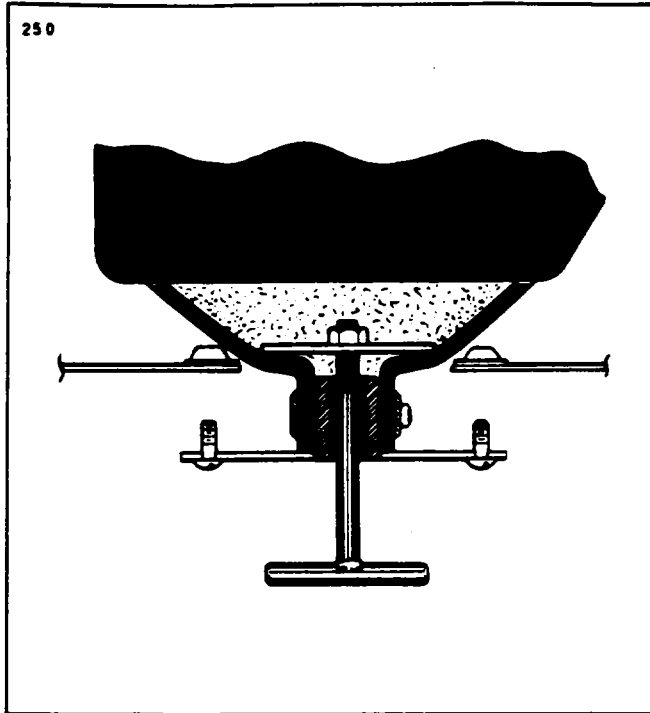

Figure 28-5. Installation of Fuel Valve Drain Plate
13. Connect the fuel drain valve plate by inserting the threaded end of bolt or rod, not under three inches long, up through the plate and nipple fitting of the fuel cell. (Refer to Figure 28-5.) Reach through the fuel cell opening and install a two or two and one-half inch diameter washer on the bolt or rod and secure with a nut. Pull the nipple down through the opening in the wing panel enough to clamp the nipple fitting to the plate. Remove the bolt or rod, secure plate to wing panel and install drain valve.